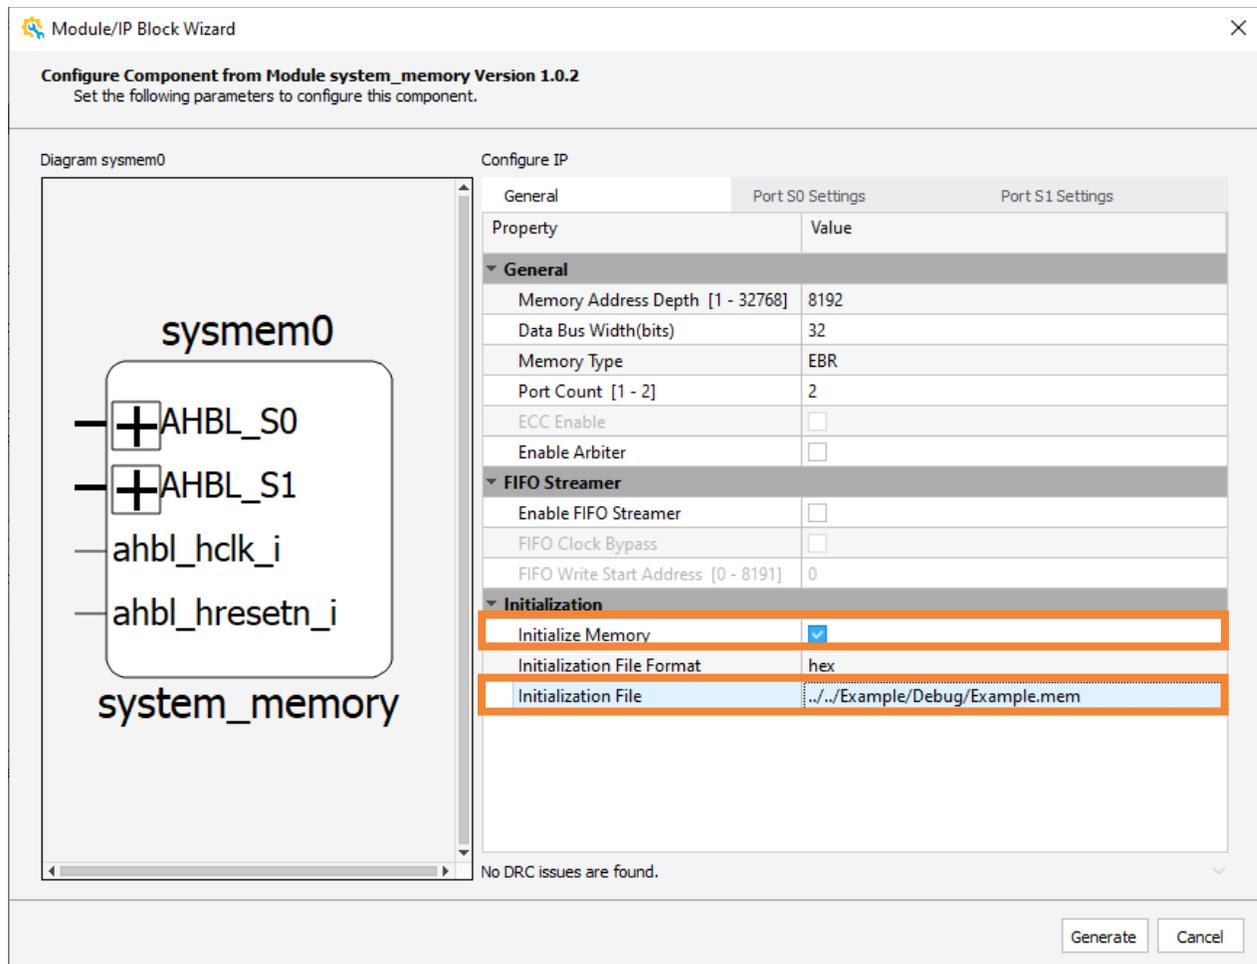

Figure 3.32. Configure Module System Memory
- Enable the checkbox for **Initialize Memory** for system\_memory IP module from the **Initialization** area of the **General** tab, and set **Initialization File** generated from the corresponding C/C++ project (Figure 3.32).